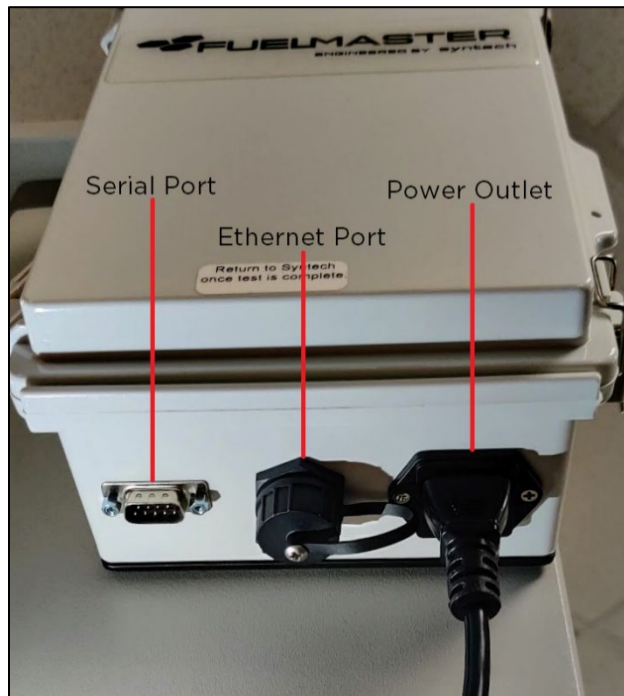

Figure 4 MDU Ports
- Attach the included power cable into the power outlet at the bottom of the MDU (Figure 4).